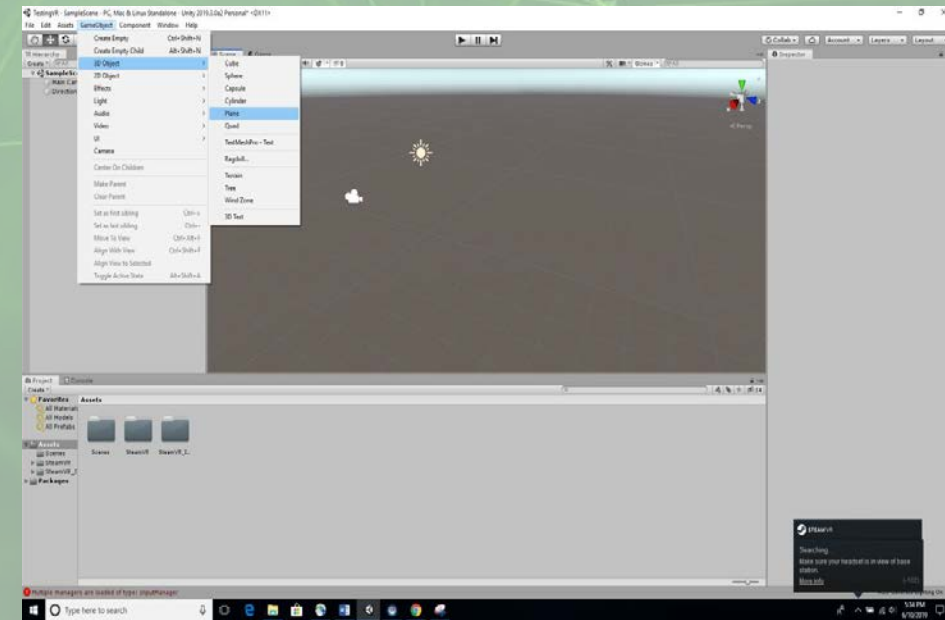

Figure 1: Blank scene
- When opening a new program, the blank scene will show up, ready for development (Fig 1.)